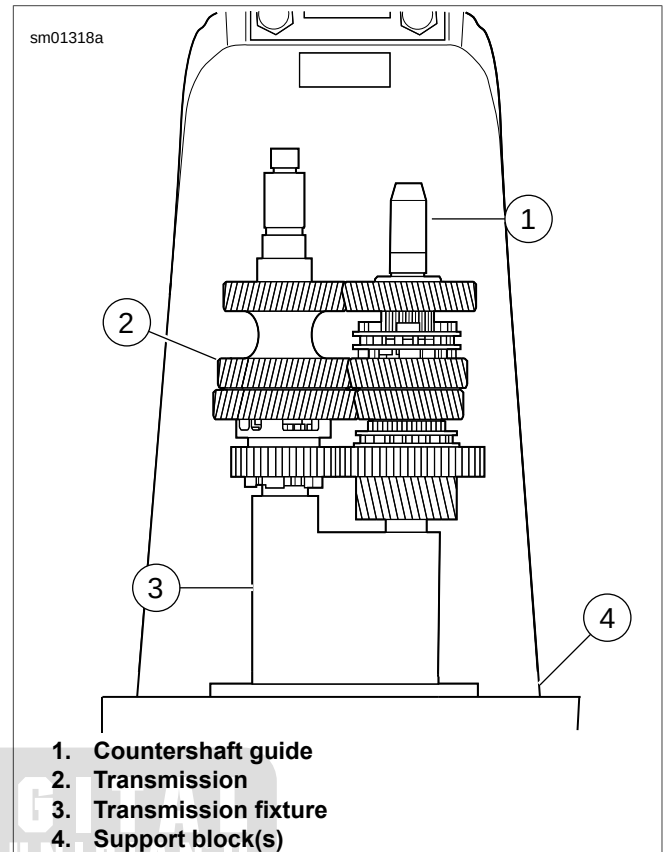

Figure 5-90. Transmission on Fixture
- See Figure 5-90. Place transmission assembly (2) on CASE HOLDING FIXTURE (Part No. HD-46285-2) (3) on press bed. Use support block(s) (4) if necessary.
- Screw the GUIDE (Part No. B-43985-4) (1) into end of countershaft.